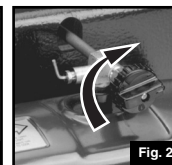

Fig. 22
- Close FUEL VALVE firmly. (Fig. 22)